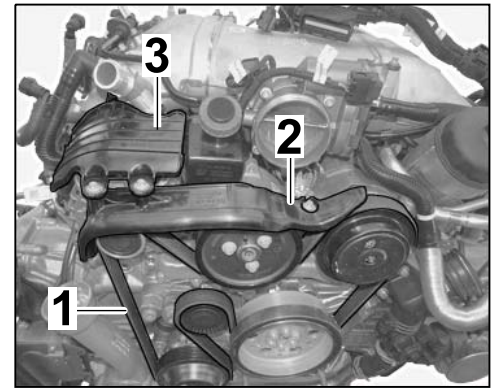

Figure 24
2.9.1 Install drive belt (⇒ *Workshop Manual '137819 Removing and installing drive belt*) and drive belt cover (⇒ *Workshop Manual '138419 Removing and installing drive belt cover*) (⇒ *Figure 24*).